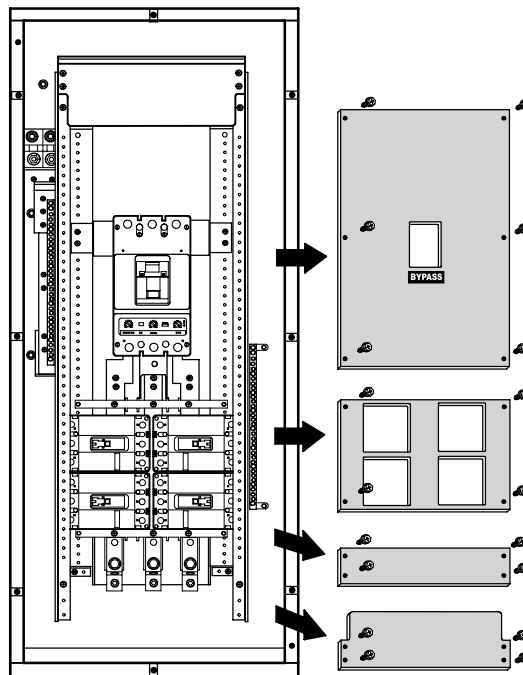

Figure 3. Internal Covers
6. Remove the internal covers to gain access to the breakers (see Figure 3).